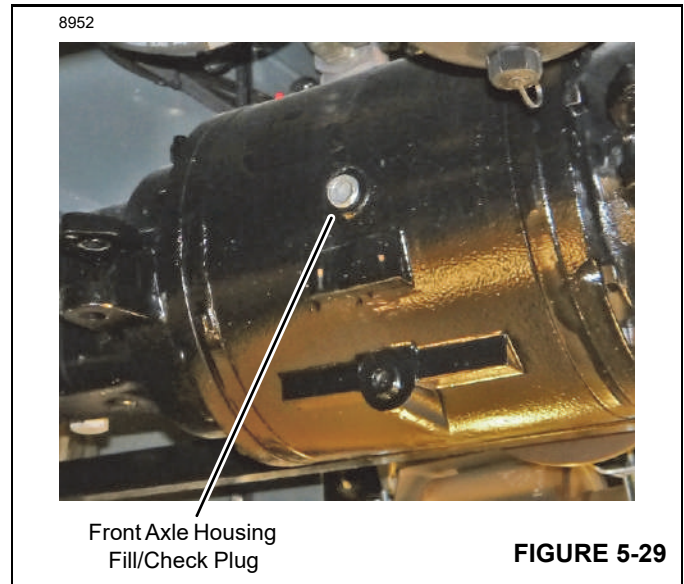
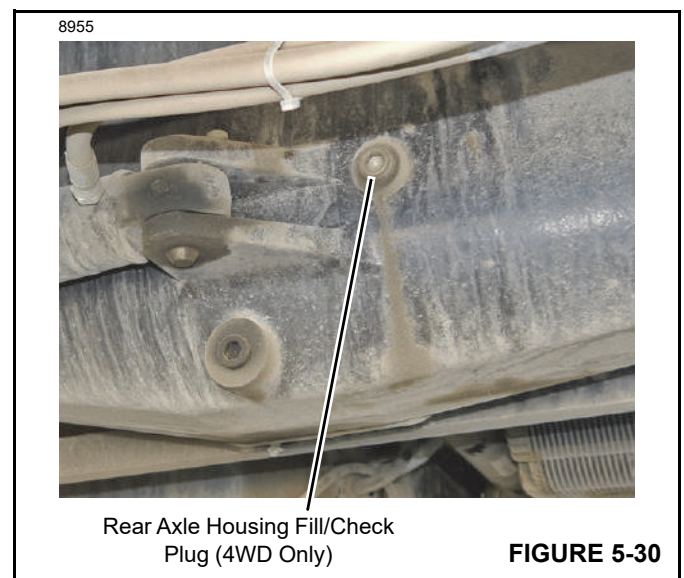

FIGURE 5-29
FIGURE 5-30
1. At either axle, clean around the axle housing fill/check plug (Figure 5-29 or Figure 5-30) and remove it.